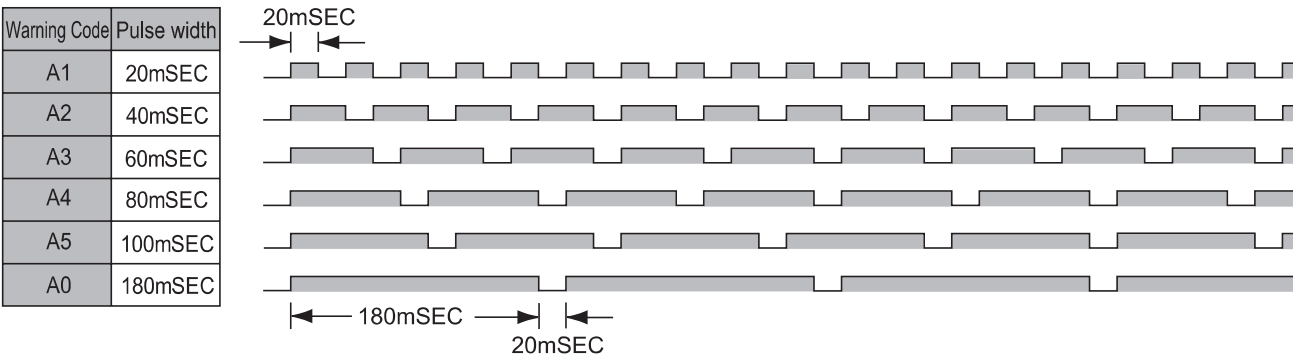

Fig. 45
When a warning occurs, a warning signal is output to the external Input/Output Connector A ① (terminal No. 20: WARNING). (Refer to Fig. 45.)